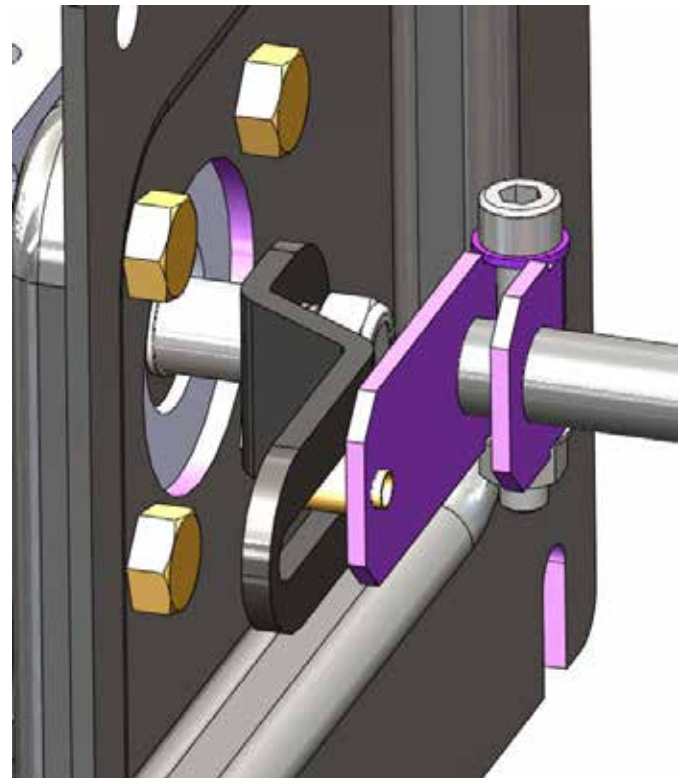

Figure 16: MaxFlo Connection
1. Slide the take-off arm onto the shaft. Insert the screw with star washer through the take-off arm and add the second star washer and nut. Tighten nut with socket so arm is lightly snug on the shaft but still able to rotate. This will be tightened after linkage is correctly oriented. Refer to figures Figure 13 through Figure 16.